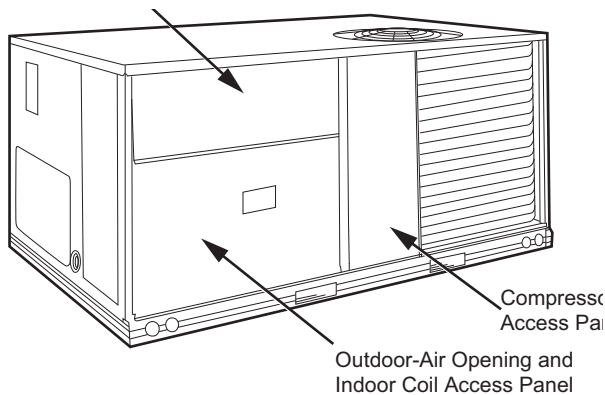

Fig. 9 – Typical Access Panel Locations
1. To gain access to the hood, remove the filter access panel. See Fig. 9.